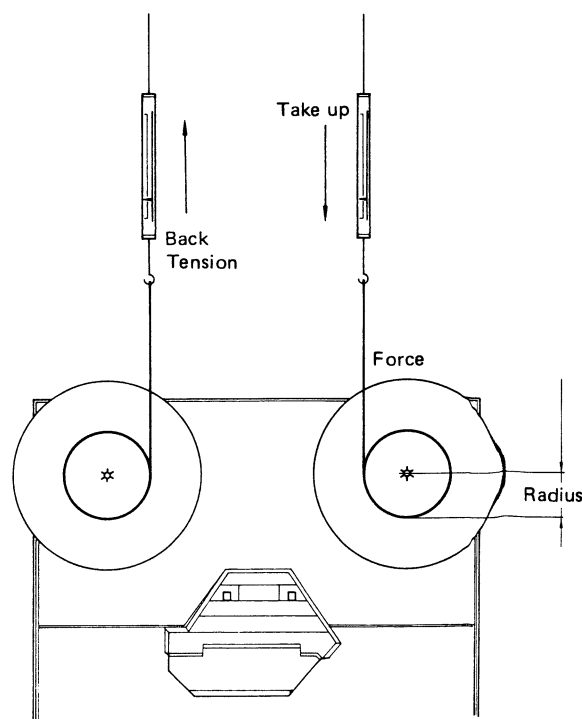

Fig. 2-4.
- Hold the spring scale with enough force to allow steady reading. See Fig. 2-4.
5. After making sure that the reel motion is smooth (the string should not be rubbing against the reel flanges), note the value indicated on the scale. See Fig. 2-4.